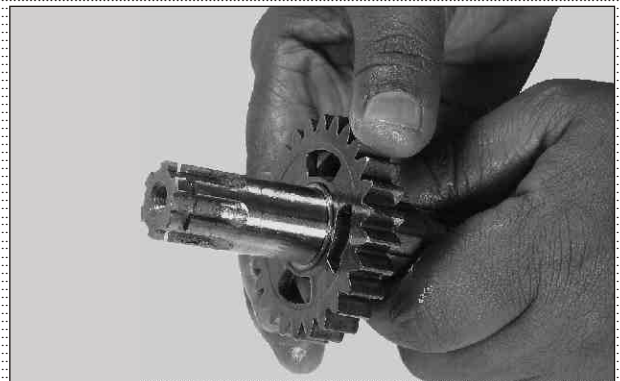

Fig. 3.117
- Take out gear 2nd driven along with bush. (Fig. 3.117)